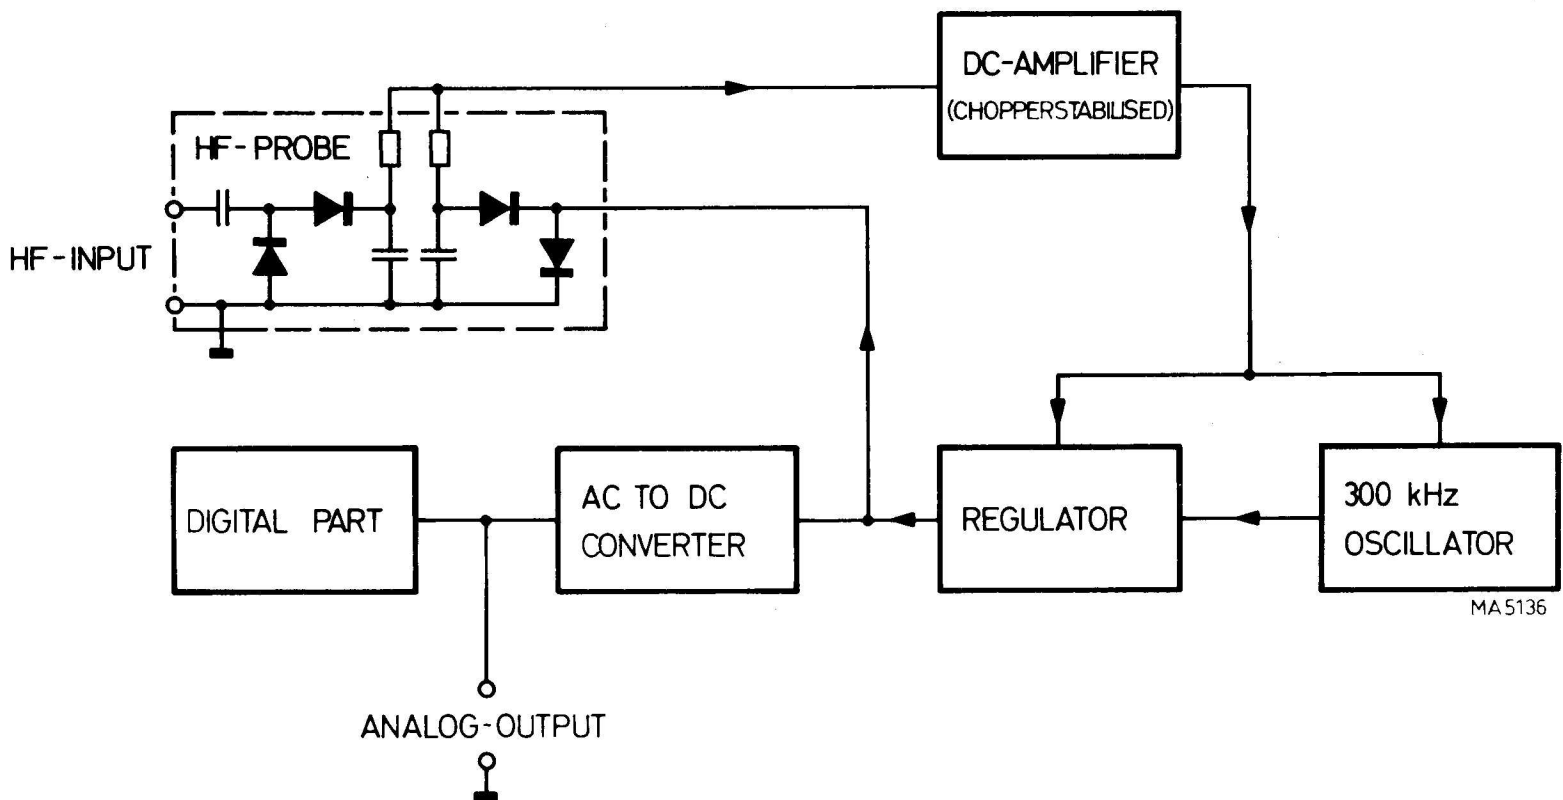

Fig. 8. Circuit for H.F. measurements
3. H. F. voltage measurements (Fig. 8)